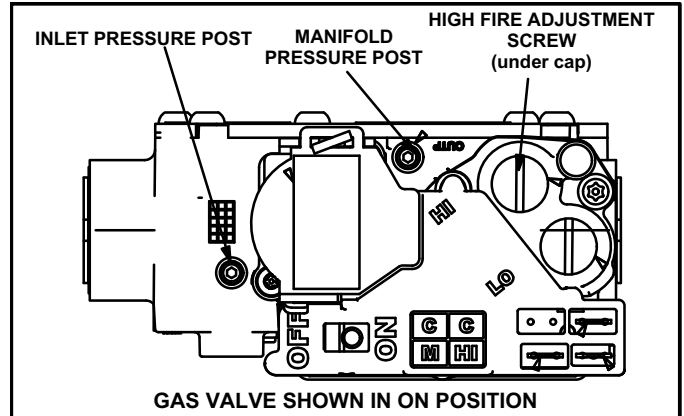

FIGURE 57
Gas Valve Operation (Figure 57)
- 6 - Move gas valve switch to **OFF**. See figure 57.
- 8 - Move gas valve switch to **ON**. See figure 57.
An inlet post located on the gas valve provides access to the supply pressure. See figure 57. Back out the 3/32 hex screw one turn, connect a piece of 5/16 tubing and connect to a manometer to measure supply pressure. See table 17 for supply line pressure.
A manifold pressure post located on the gas valve provides access to the manifold pressure. See figure 57. Back out the 3/32 hex screw one turn, connect a piece of 5/16 tubing and connect to a manometer to measure manifold pressure.
- 5 - If necessary, make adjustments. Figure 57 shows location of high fire and low fire adjustment screws.